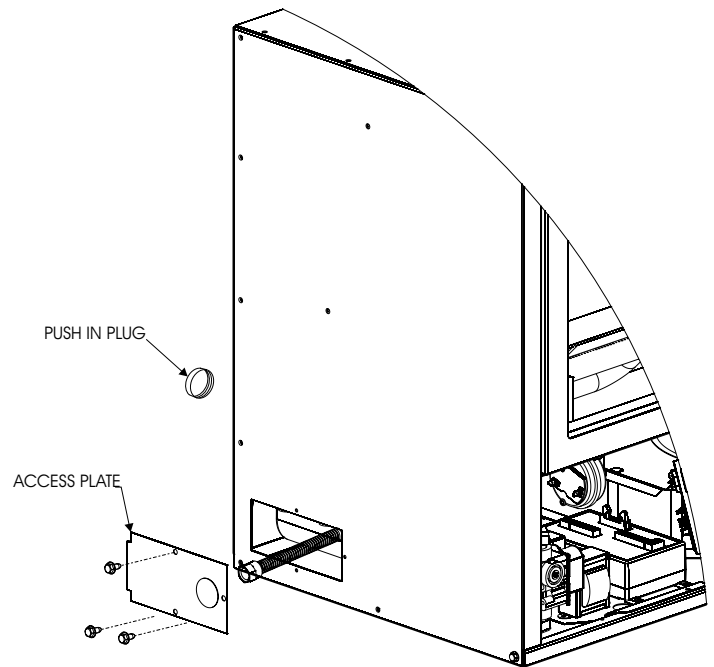

Figure 44
1. Remove the access plate on the left side of the cabinet by removing three screws as shown in Figure 44. Put the screws aside.